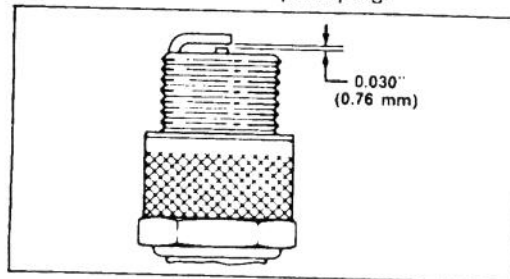

Figure 28
REPLACING SPARK PLUG (Fig. 28)
- Set air gap between electrodes of new spark plug at 0.030 of an inch (0.76 mm) (Fig. 28). Next, install spark plug in cylinder head. Tighten plug to 15 ft-lb (20.4 N-m). If torque wrench is not used, tighten plug firmly.